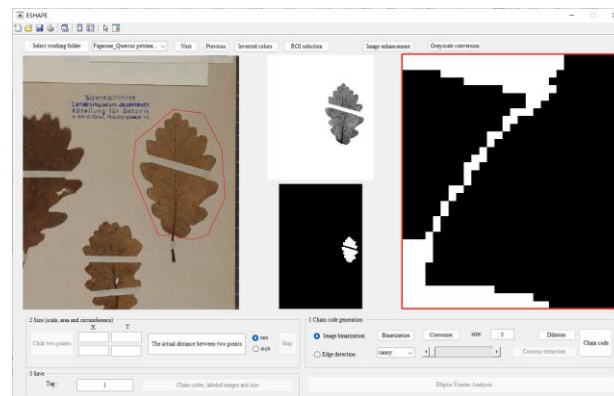

Figure 12
If there is a breakage in the middle of your target object, you can use the 'Editing' function in the right window. Users can zoom in on the image using the mouse scroll wheel to locate the extent of the breakage. Scrolling the mouse wheel forward zooms in, while scrolling it backward zooms out. To pan the image, long-press the right mouse button and drag. To draw white lines and connect, long-press the left mouse button and drag (Fig. 12). Left-clicking on a pixel using the mouse will change the value of the binary image, toggling between black and white.
(1) The more times you perform dilation, the greater the distortion of the object. Therefore, the number of times used should be appropriate.
(2) Before editing the image, it's important to zoom in until one pixel is clearly visible (Fig. 12); otherwise, there may be positional deviations.
(3) Whether to use corrosion, dilation, and editing functions depends on the specific circumstances.